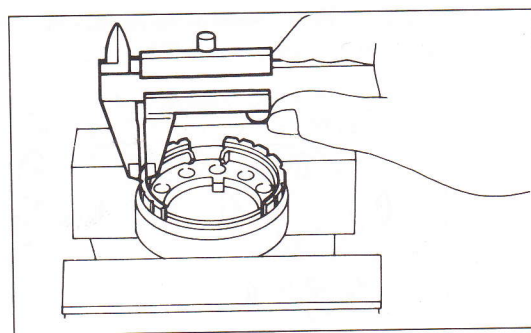

Fig. 4-16. Vernier caliper being used to measure thickness of brake shoe.
- Using pliers, slightly compress and then fully remove the brake shoe return spring from the hub brake assembly. Then partially withdraw the brake shoe, and measure its thickness as shown in Fig. 4-16. If the shoe has worn to a thickness of less than 1.00 mm (.039 in.) on 1984 and 1985 models, or 1.5 mm (.059 in.) on 1986 and 1987 models, replace the entire hub brake assembly.